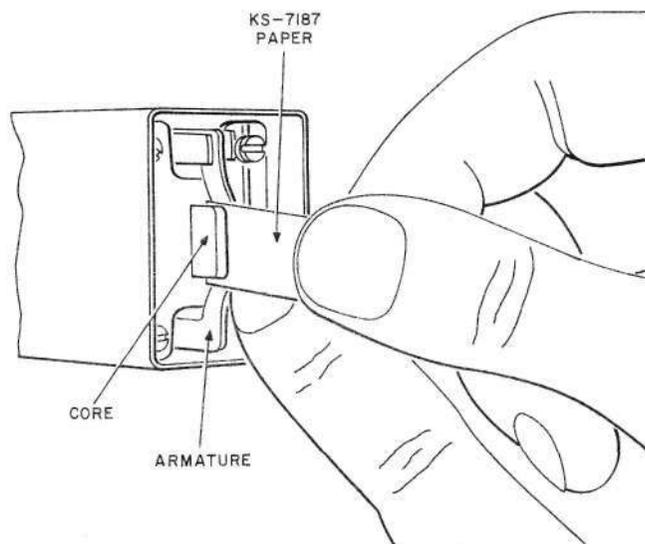

Fig. 44—Method of Cleaning Armature and Core on B- and G-Type Relays
7.04 *Armatures, Cores, or Pole Pieces of B-, G-, J-, L-, N-, S-, 177-, 203-, 221-, 222-, 223-, 224-, 225-, 247-, 248-, 251-, and 252-Type Relays:* Proceed as covered in 7.03 using KS-7187 paper instead of KS-7188 paper (see Fig. 44, 45, and 46).